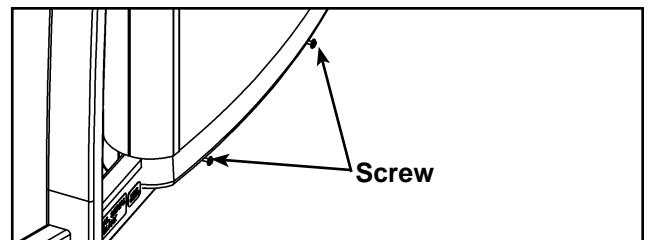

Figure 11
- A.** Carefully place shroud assembly back into position on the two bottom screws. See Figure 11.